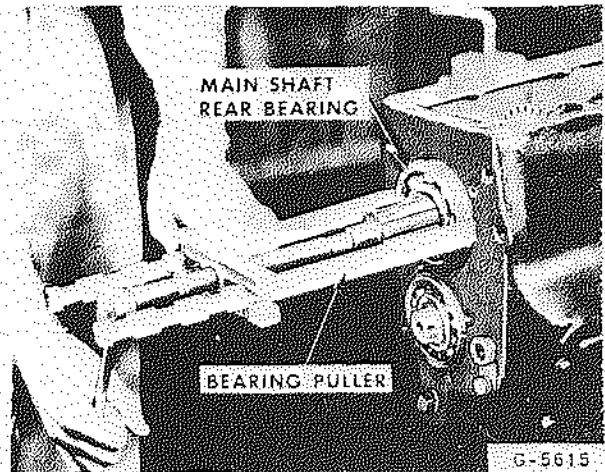

Fig. 15 - Removing Mainshaft Rear Bearing
Drive mainshaft assembly toward rear of case sufficiently to expose mainshaft rear bearing (21) and snap ring. Install a suitable bearing puller and pull bearing (21) from mainshaft (17) as shown in Fig. 15.